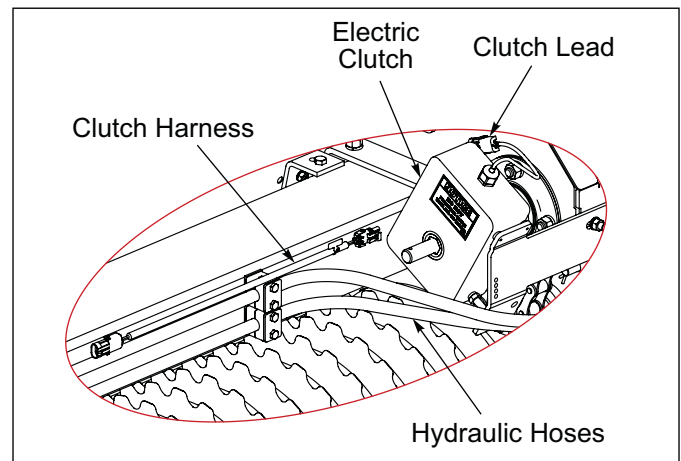

Figure 2-21: Clutch Lead
2. Connect Clutch Harness to Clutch Lead and route along Frame and Drawbar/3-PT Hitch. Secure to Frame and Drawbar/3-PT Hitch or with Hydraulic Hoses and Warning Lamp Harness with Tie Wraps and Adhesive Mounting Plates. **See Figure 2-21.**